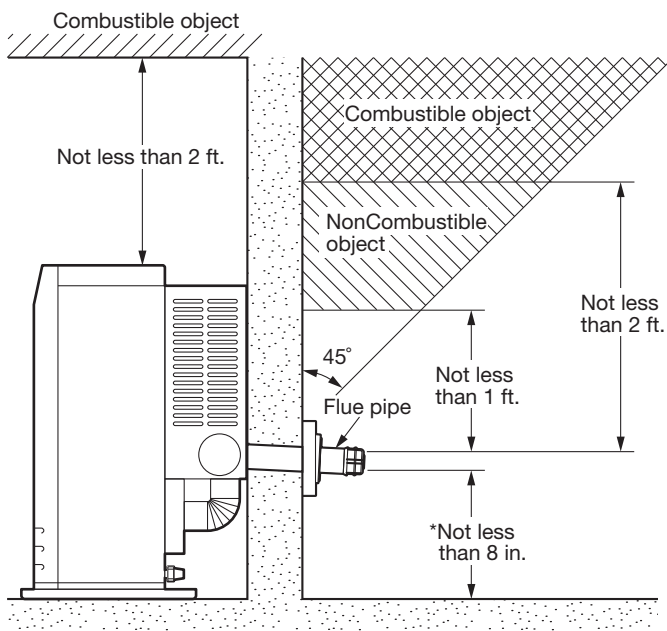

Fig. 2
2. Make sure that the outside area to where the flue pipe will reach is clear of any objects. (See Fig. 2 & 3)
CAUTION! The standard flue pipe installation, as shown in Fig. 2, is for wall thickness from 4 in. to 9 in. ONLY. Note: For wall thickness more than 9 in., refer to page 17 for available flue pipe extensions. Note: The flue pipe can be installed through any standard building materials.